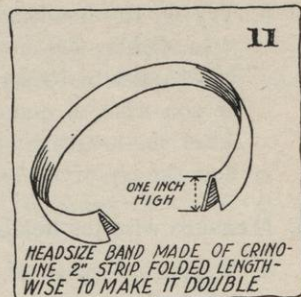

FIG. 11.
- a. Fold a 2-inch bias strip of crinoline in half lengthwise so that it will be 1 inch wide (see Figure 11).